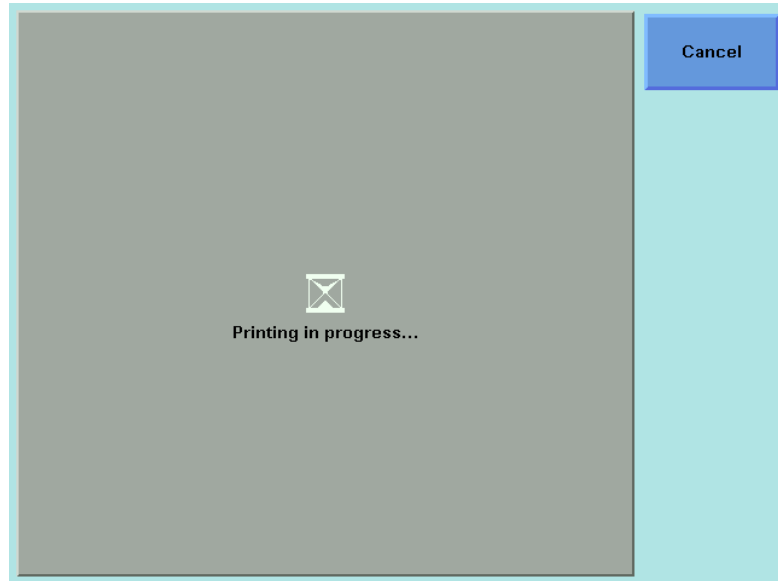

Figure 189 The Printing in Progress Screen
- 5 Press [Menu], move to <Print>, and press *Enter*. The screen, shown in Figure 189 on page -307, appears.